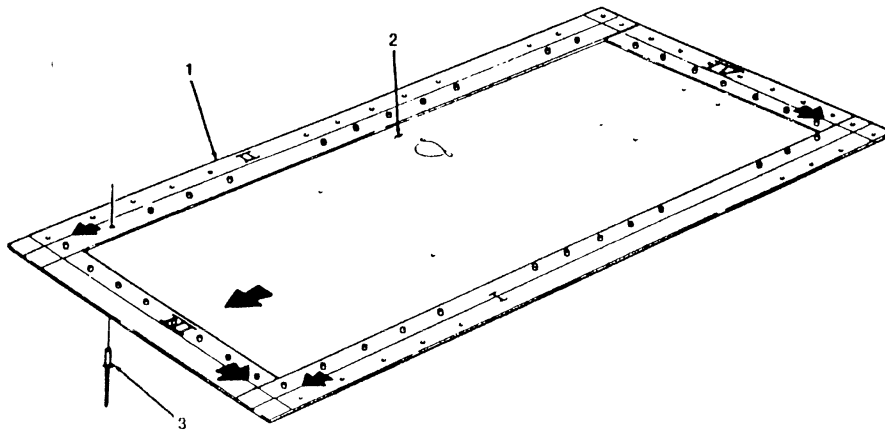

FIGURE 3-50
5. Position metal strip "II" (1) to insert panel (2) and secure with twelve NSN 5320-01-271-6357 rivets (3). (see figure 3-50)
6. Remove adhesive residue and clean edges on metal strip "II" (1) and insert panel (2).